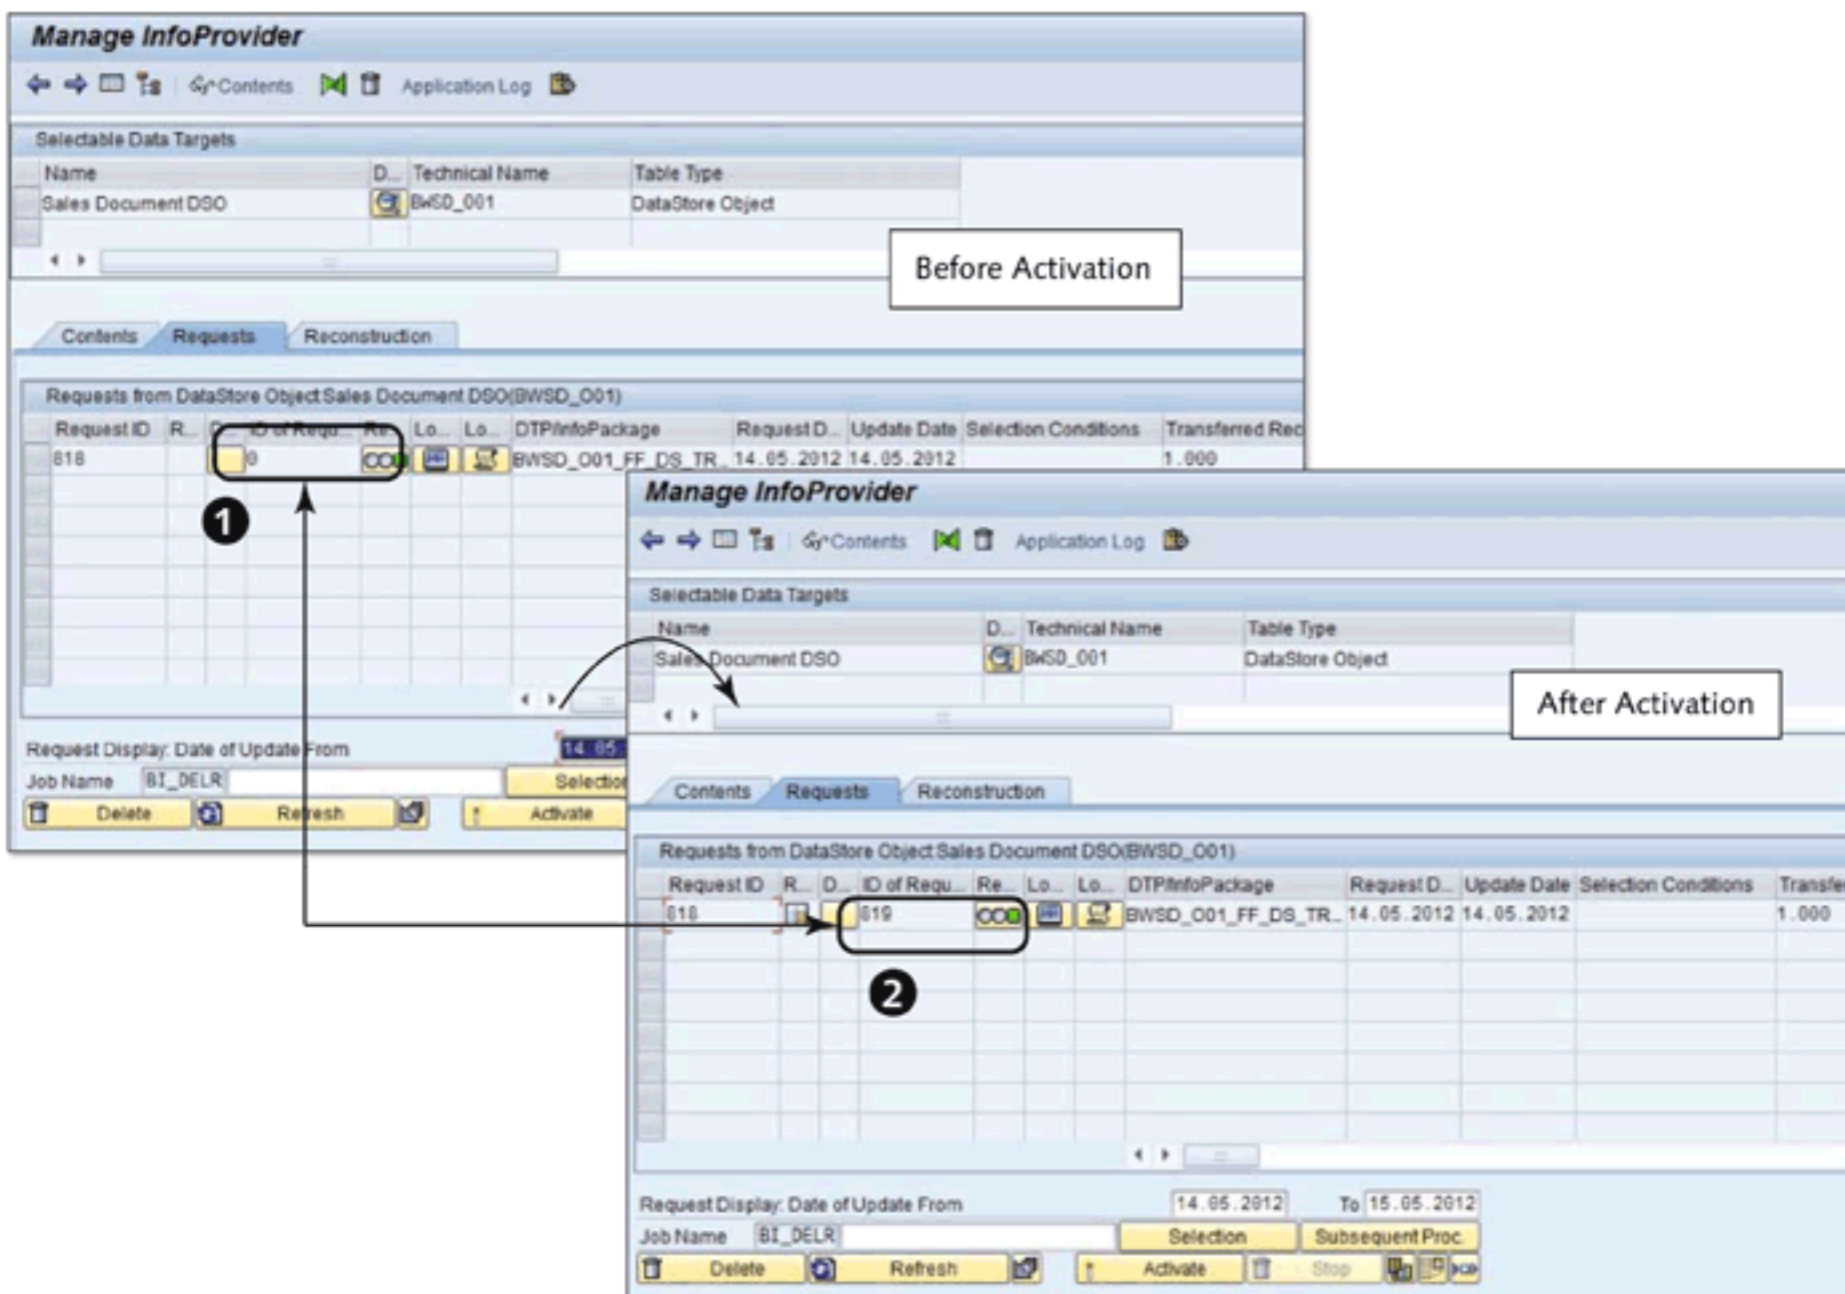

Figure 14.7 Activated Request in DSO
Upon successful activation, the status of the request in the REQUESTS tab is reported with changes; see ❶ and ❷ of Figure 14.7 to view the status of request 816 before and after activation, respectively. The data from the request is now available for reporting.